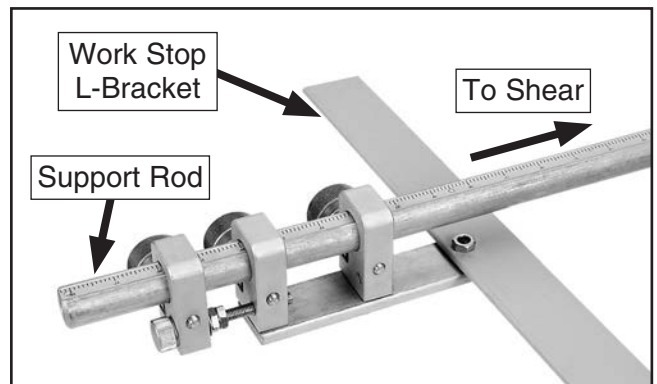

Figure 10. Rear work stop assembly installed.
3. Slide the rear work stop assembly onto the work stop support rods, as shown in **Figure 10**, with the work stop L-bracket facing the shear.